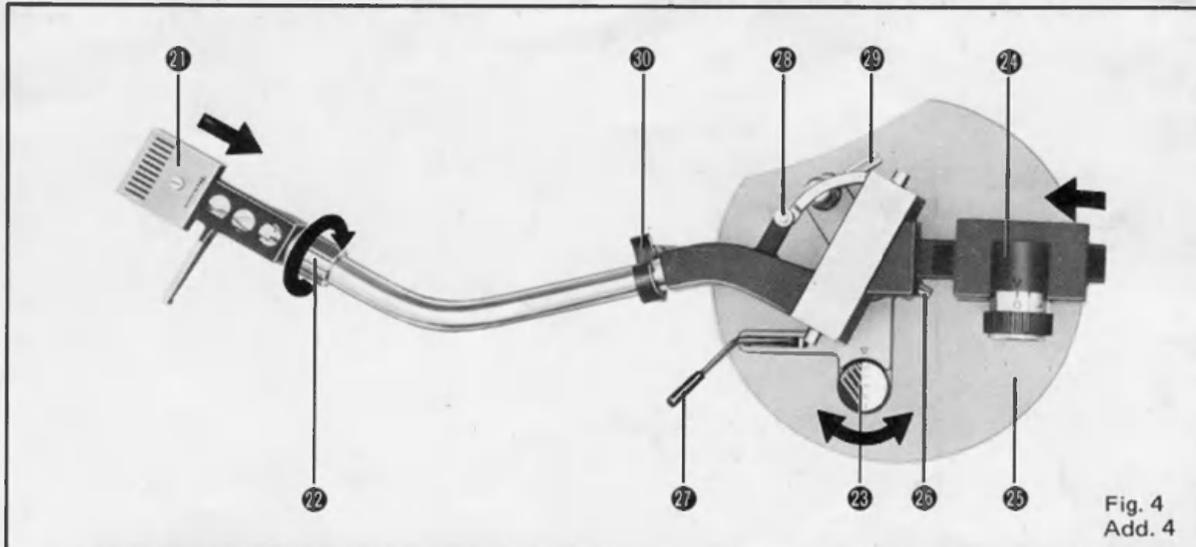
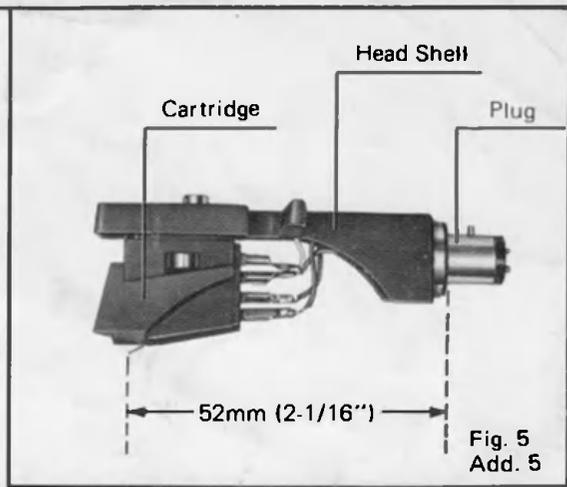
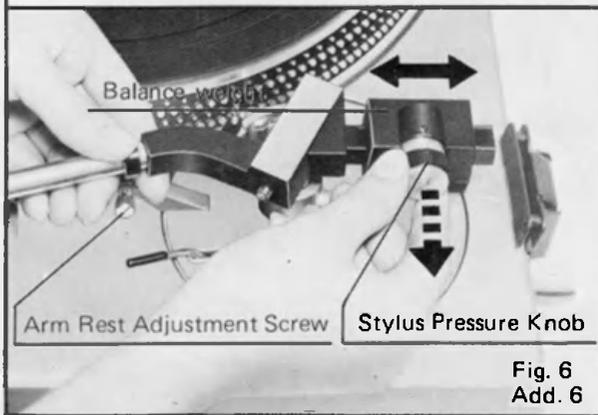
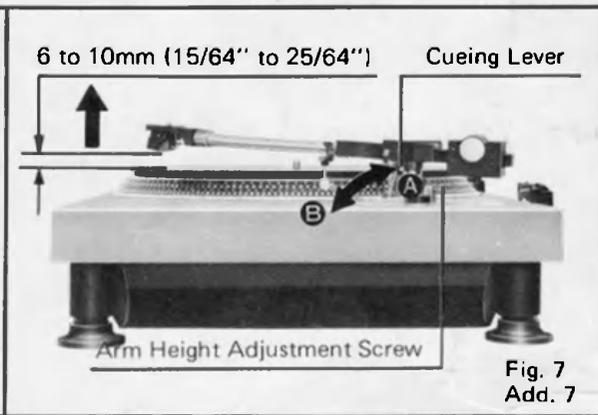

Fig. 4
Fig. 5
Fig. 6
Fig. 7
⑬ TONEARM (See Fig.1- ⑭ , Fig.4)
② HEAD SHELL (See Fig.4- ② , Fig.5)
③ LOCKING NUT (See Fig.4- ③)
④ ANTI-SKATING FORCE DEVICE (See Fig.4- ④)
⑤ BALANCE WEIGHT (See Fig.4- ⑤ , Fig.6)
⑥ ARM BASE (See Fig.4- ⑥)
⑦ ARM HEIGHT ADJUSTMENT SCREW (See Fig.4- ⑦ , Fig.7)
⑧ CUEING LEVER (See Fig.4- ⑧ , Fig.7)
⑨ FINE ADJUSTMENT SCREW (See Fig.4- ⑨ , Fig.7,8)
⑩ ARM LIFT ADJUSTMENT SCREW (See Fig.4- ⑩ , Fig.8)
⑪ ARM REST (See Fig.4- ⑪ , Fig.6)